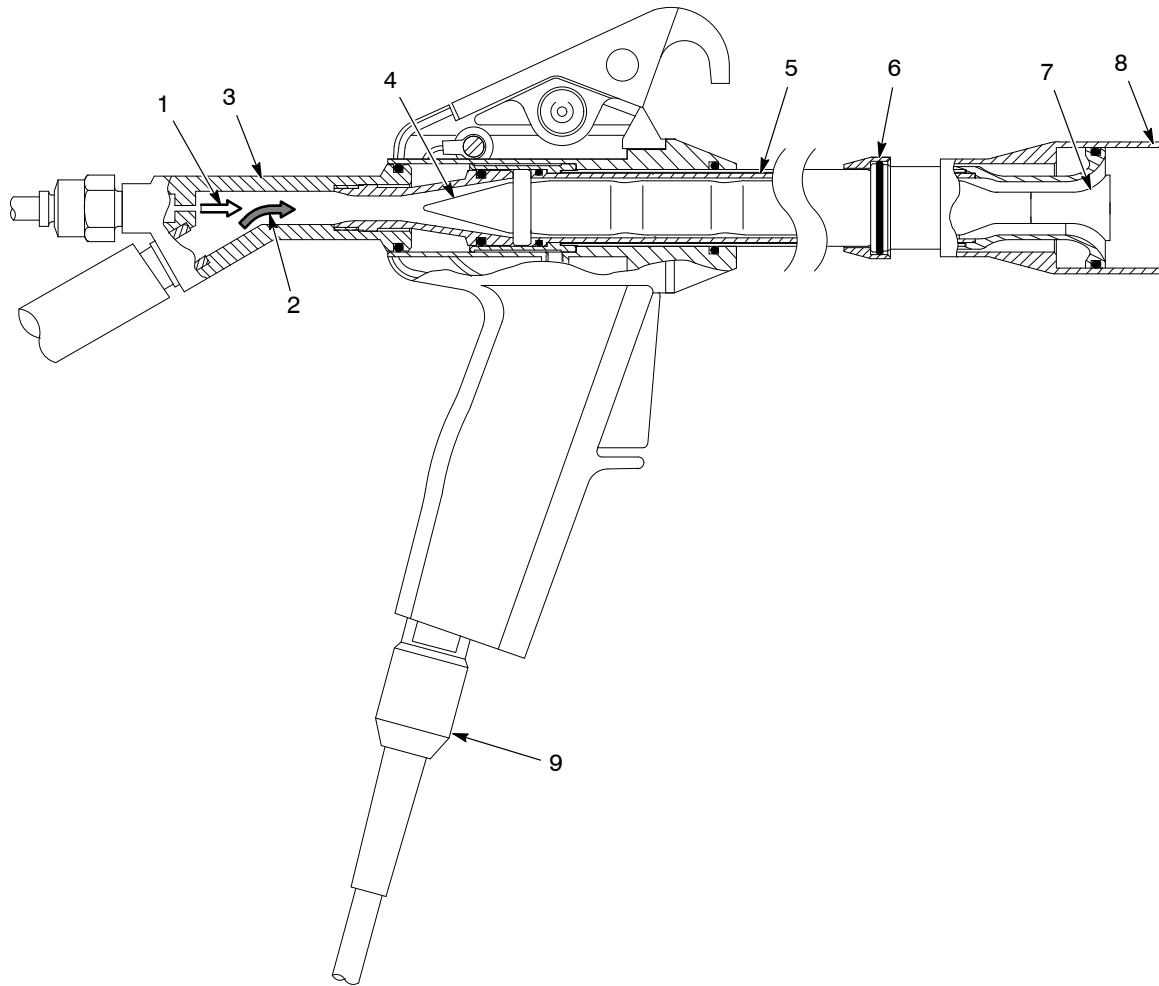

Figure 2 Cutaway View – Gun Components and Operation
See Figure 2. The diffuser (3) mixes compressed air (1) with the powder (2) before it enters the charging sleeves. As the powder and air mixture flows between the inner (4) and outer (5) charging sleeves, the powder particles collide with the charge sleeve walls and receive an electrostatic charge. The sleeves receive an opposite charge that is grounded through the cable (9) and control unit. The control unit displays the grounded charge in microamperes of current. The gun's current output indicates the charge received by the powder.